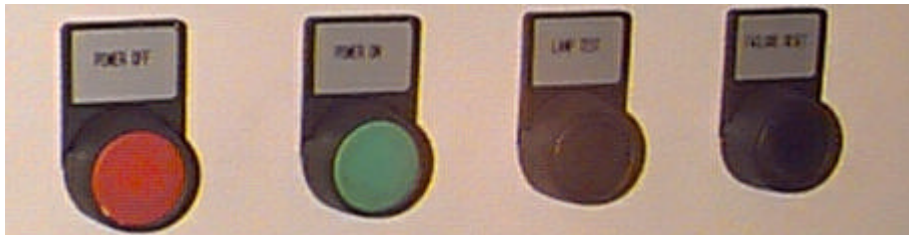

FIGURE 2
- II. There is a row of buttons on cabinet door #2 (figure 2). Press the buttons in the following sequence: